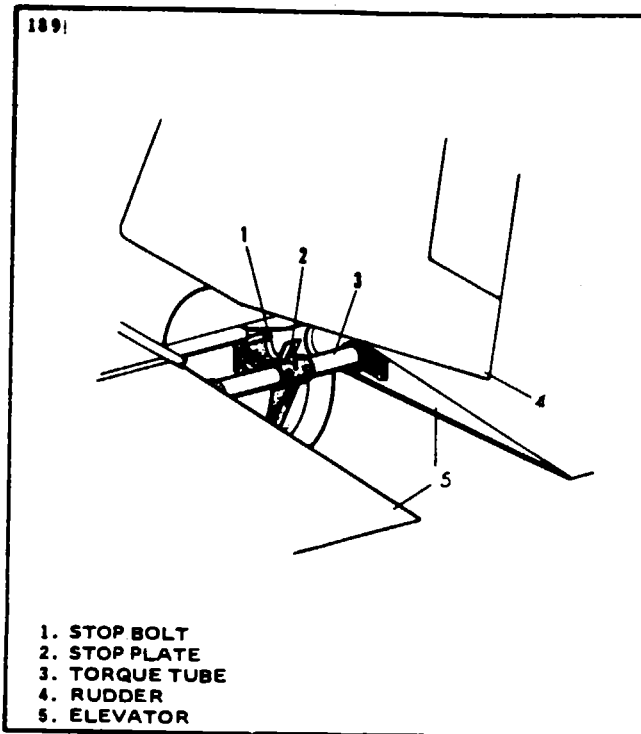

Figure 5-8. Elevator Travel Stops
f. With the elevator neutral, place a bubble protractor on the inboard section of the elevator and establish neutral or zero on the protractor. Move the elevator up until the control arm contacts its stop. (Refer to Figure 5-8.) Check the up travel as given in Table V-II. Adjust the stop screw in or out to obtain proper adjustment. Move the elevator down and check and adjust by the same method. Tighten adjustment screw locknuts and torque to 20-25 inch pounds. The elevator control arm should contact its stops before the control wheel contacts its stops.